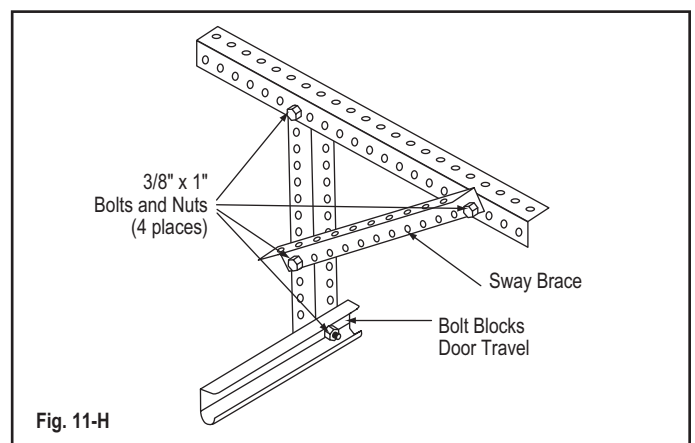

Fig. 11-H
Step 11-8, Continued: Adjust the position of the tracks if the squareness distances are not within 1/2" of each other. Horizontal track can be out of level up to 1" from front jamb to rear track hanger. (Fig. 11-I)